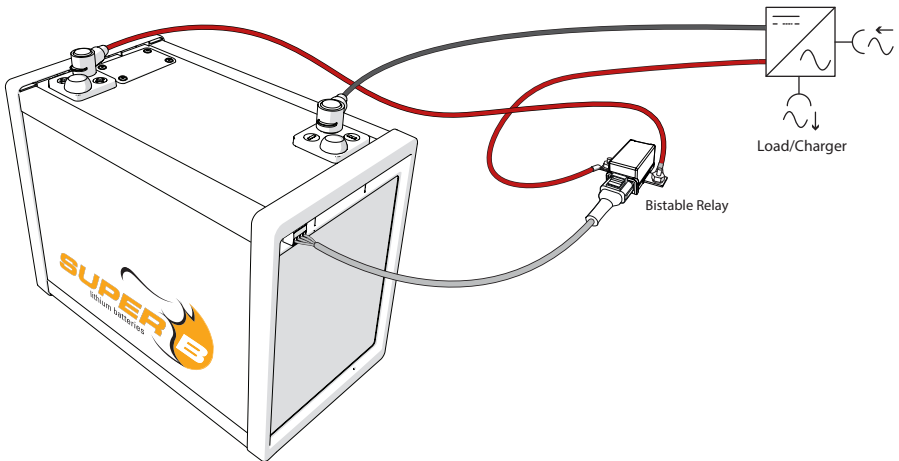

Figure 9. Connecting the battery to the load
2. Connect the + terminal of the battery to the - or B terminal of the relay (see figure 9).